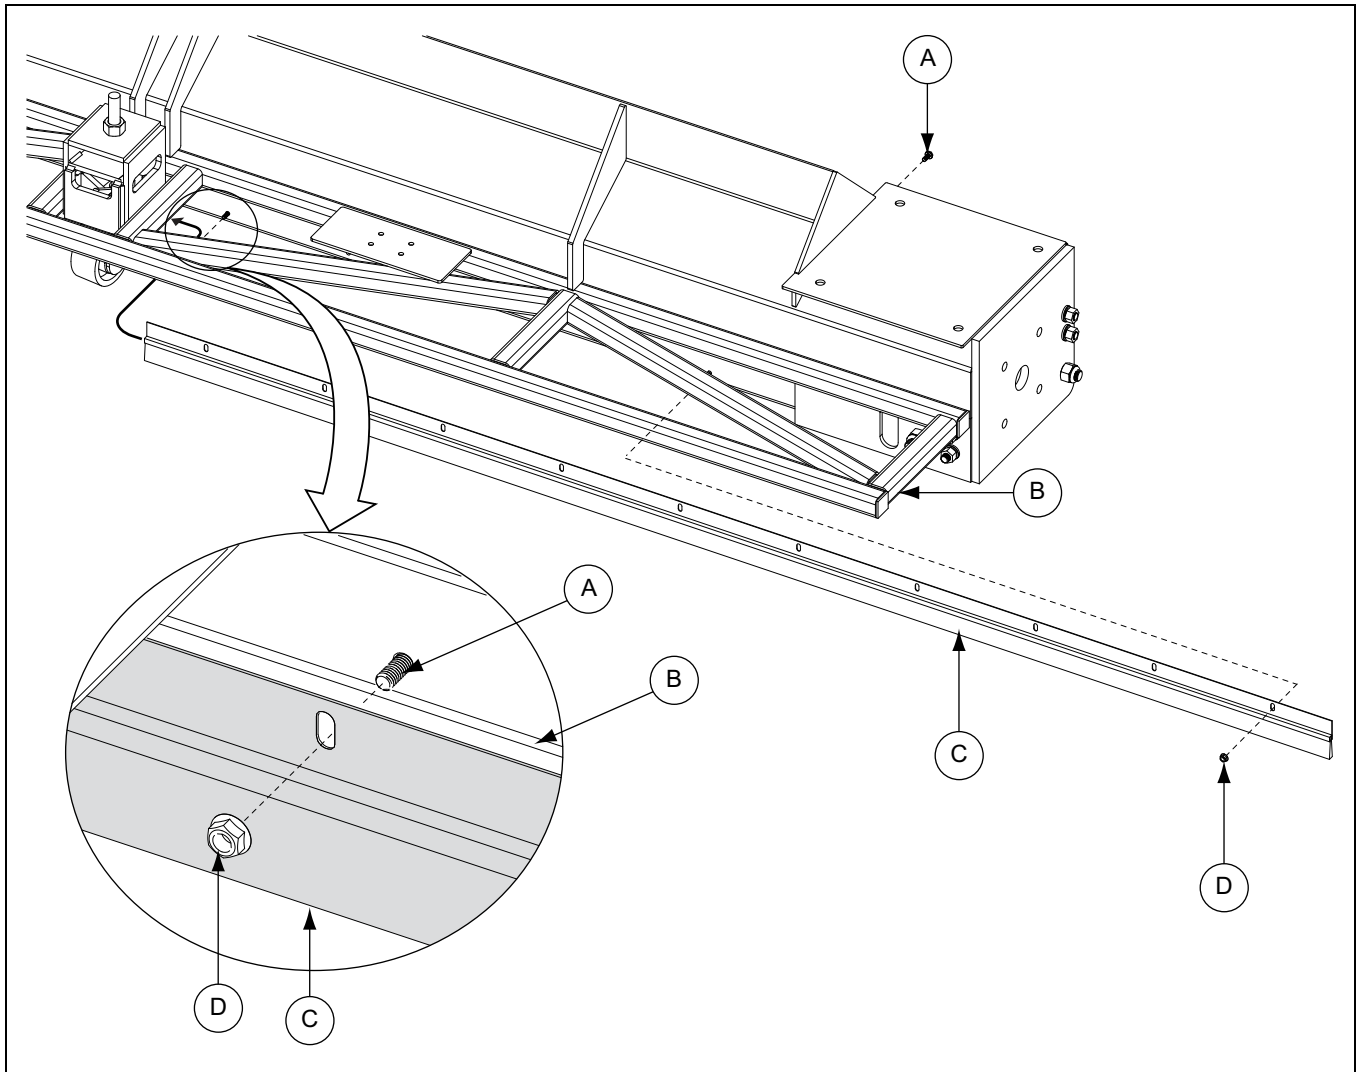

Figure 4T
1. Slide brush assemblies (C) along back of sweep shield (B). Align holes in brush assembly with holes in shield using a drift punch. (See Figure 4T.)